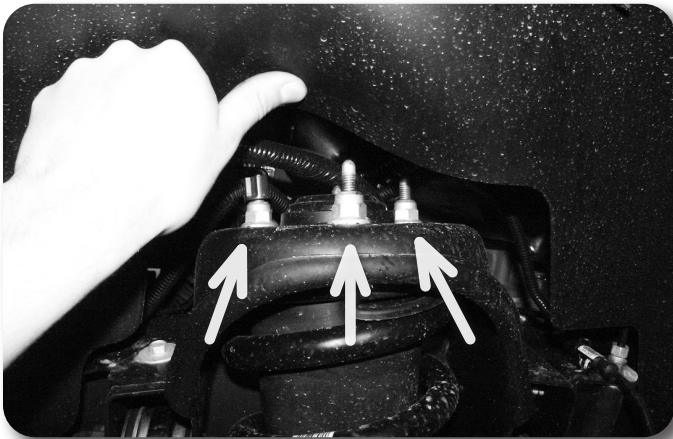

Figure 12
19. Remove the three upper strut mounting nuts Fig. 12 and remove the strut from the vehicle. DO NOT remove the center strut rod nut, it is under extreme pressure. Save nuts.